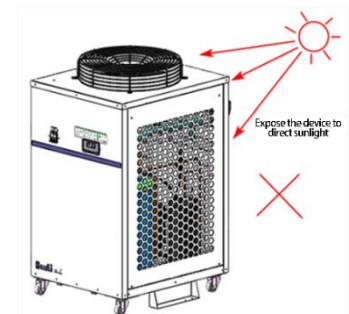

Figure 6-3 Equipment
- The product must not be installed in harsh environments such as corrosive and flammable gases, heavy dust, oil mist, metal and other conductive dust, high temperature and humidity, strong magnetic fields, direct sunlight, etc. , as shown in Figure 6-3 .